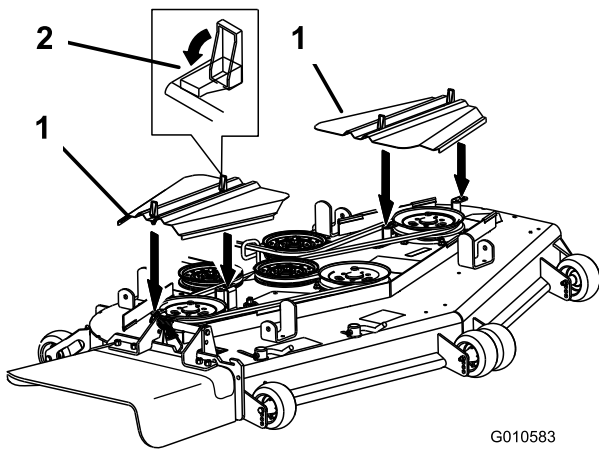
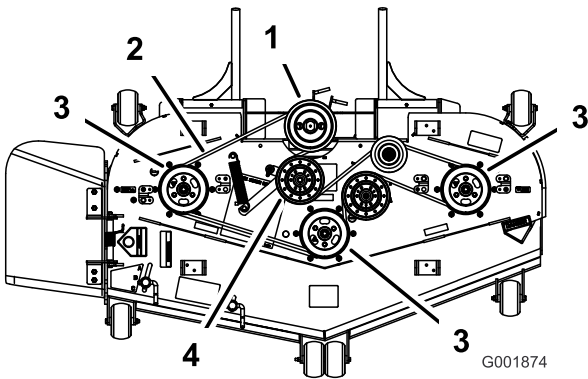
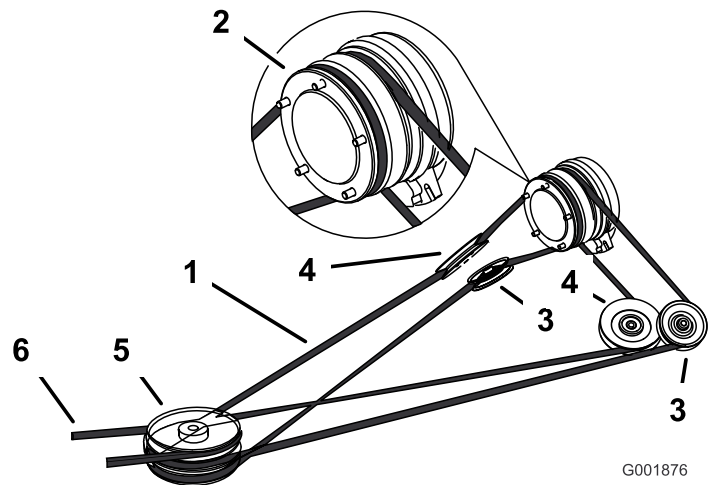

Figure 63
Figure 64
Figure 66
3. Remove the belt covers (Figure 63).
5. Remove the mower belt from the mower pulleys and the top pulley of the three stacked pulleys (Figure 63 and Figure 64).
6. Install the new belt around the mower pulleys and the top pulley of the three stacked pulleys (Figure 63 and Figure 64).
7. Pull on the spring loaded idler arm to loosen the belt tension and align the mower belt onto the idler pulley (Figure 64).
8. Install the belt covers and close the latches (Figure 63).
4. Pull on the spring loaded idler pulley to loosen the belt tension (Figure 66).
5. Remove the mower belt from the top pulley of the three stacked pulleys (Figure 64 and Figure 66).
7. Install the new drive belt around the clutch pulley, the adjustable idler pulleys, the spring loaded idler pulley, and the front three stacked pulleys (Figure 66).
9. Install the mower belt around the mower pulleys and the top pulley of the three stacked pulleys (Figure 64 and Figure 66).